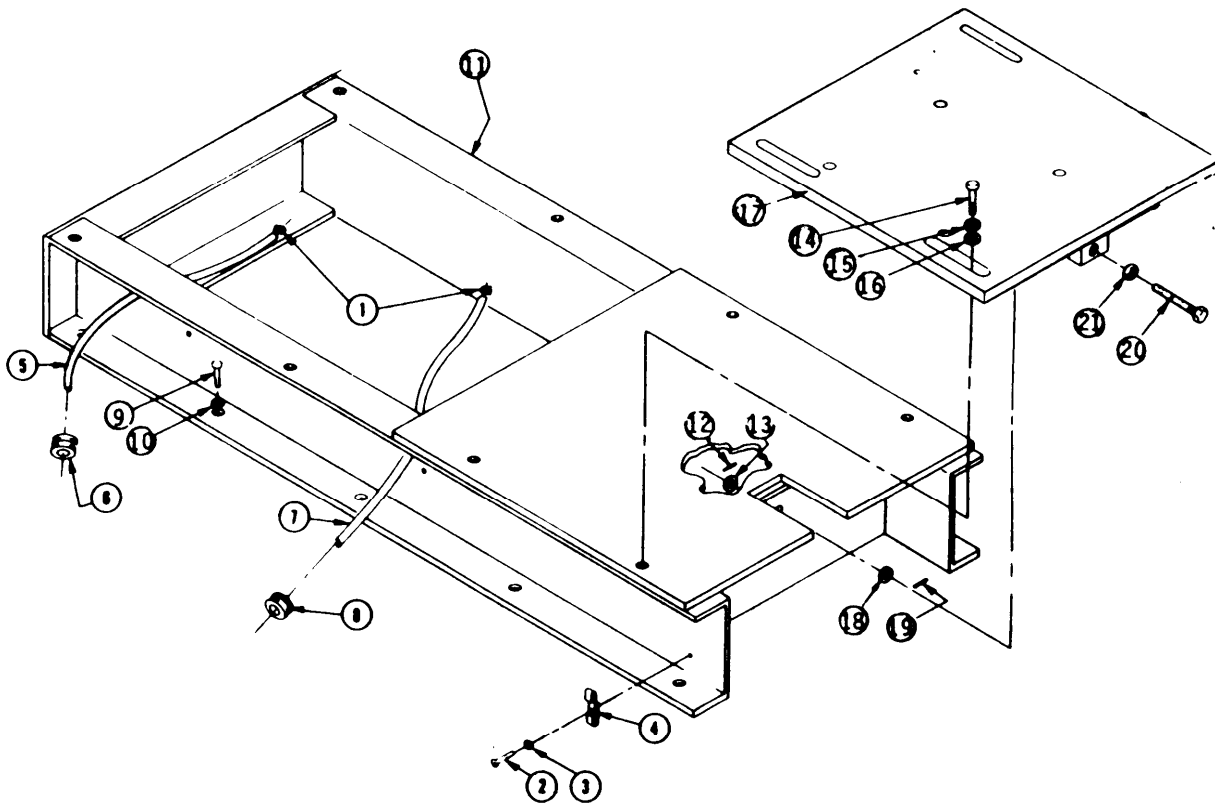

Figure 2-46. R.O. Pump Assembly Stand
c. R.O. Pump Assembly Stand Disassembly. (Figure 2-46)
- (1) Remove hose clamps (1) from water hose drain (5) and oil drain hose (7).
- (1) Replace all hose clamps.
- (2) Replace damaged water or oil hoses.
- (3) Replace damaged grommets and O-rings,
- (4) Replace all damaged screws, nuts, bolts, and washers.
- (5) Threaded inserts may be removed, retaped, and replaced. Severely damaged inserts maybe removed, the tapped hole welded closed, and a new insert installed.
- (6) Repaint, as needed, in accordance with Standard Operating Procedures.
g. Installation. (Figure 2-46)
- (1) Install nut (21) on adjusting bolt (20).
- (2) Seat nut (21) at end of threaded portion of bolt (20).
- (3) Install adjusting bolt (20) with nut (21) in R.O. pump motor mounting plate (17).
- (4) Install flat washer (18) and groove pin (19) in adjusting bolt (20).
- (5) Place R.O. pump motor mounting plate (17) with adjusting bolt (20) attached on stand (11).
- (6) Align mounting holes in mounting plate (17) with stand (11) mounting holes.
- (7) Install four bolts (1 4), four flat washers (15), and four lockwashers (16) into R.O. pump motor mounting plate (17) and stand (11).
- (8) Install flat washer (13) and groove pin (12) into adjusting bolt (20).
- (9) Place stand (11) on ROWPU frame and align mounting holes.
- (10) Install ten bolts (9) and ten lockwashers (10) into R.O. pump mounting stand (11) and ROWPU frame.